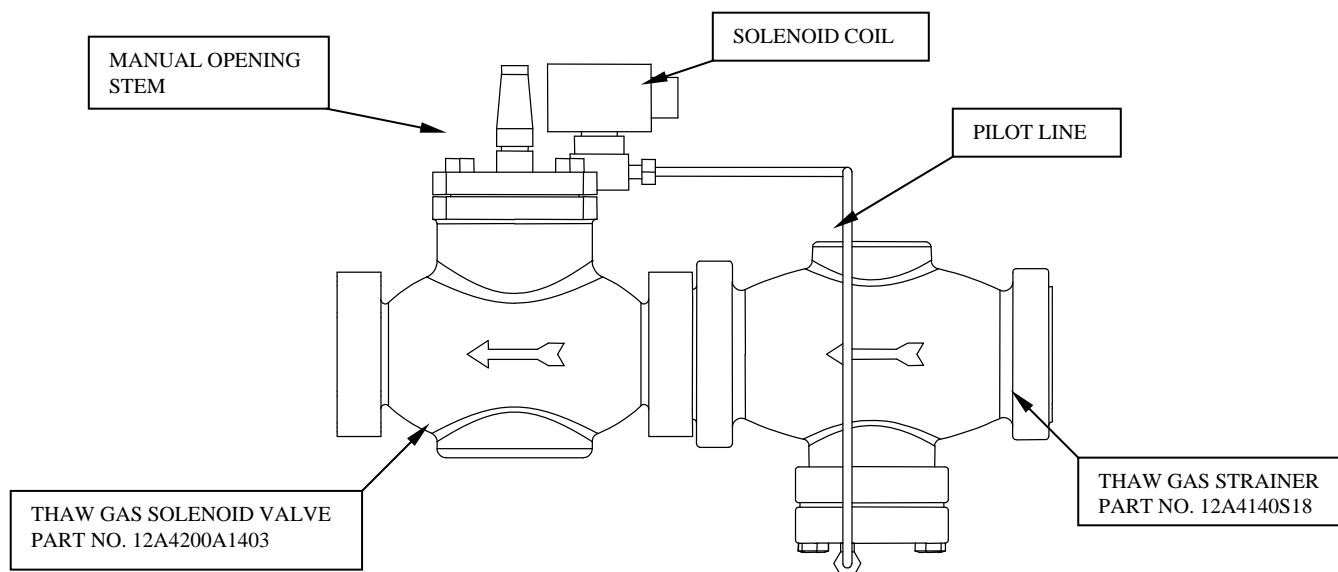

FIGURE 9-9
The Thaw Gas Solenoid Valve (18), Figure 9-9, is opened during the thaw cycle to allow warm gas to pass from the receiver to the freezer. Repair or replace as follows: